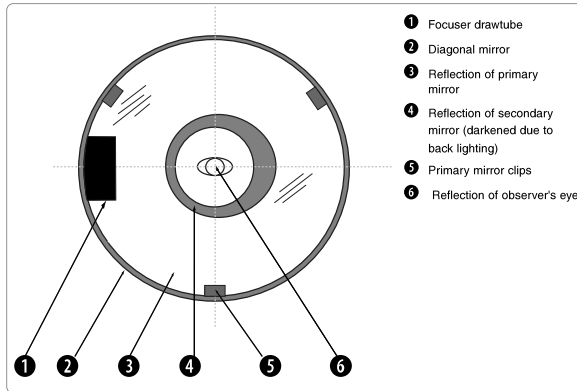

Fig. 31a: The view you will see while collimating a Schmidt-Newtonian telescope.
Fig. 31a shows a correctly collimated Schmidt-Newtonian telescope, as it appears when viewed through the focuser with the eyepiece removed.
1. Observe through the focuser and orient your body so that the telescope's primary mirror is to your right, and the correcting plate end of the telescope tube is to your left. The diagonal mirror will appear centered as shown (2, Fig. 31a). If the diagonal appears off center, then adjust the 4 collimation screws on the plastic diagonal mirror housing.
2. If the reflection of the primary mirror (3, Fig. 31a) is not centered on the surface of the diagonal mirror, adjust the 4 collimation screws on the plastic diagonal mirror housing to center the reflection.